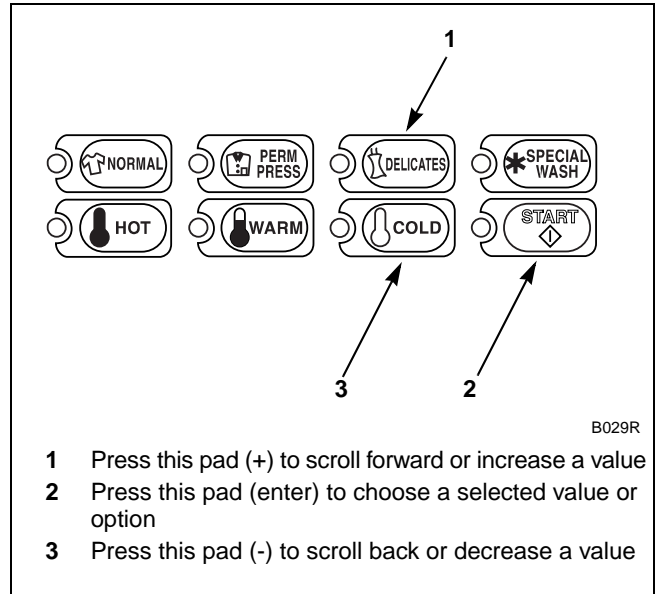

Figure 56
5. Press the DELICATES (+) or the COLD (-) keypad to increase or decrease the current number of minutes displayed in the VFD to the desired number of minutes. Refer to *Figure 56*.
**NOTE: The Normal Rinse Extra Fill/Tumble Time can be set from zero (0) to 15 minutes.**